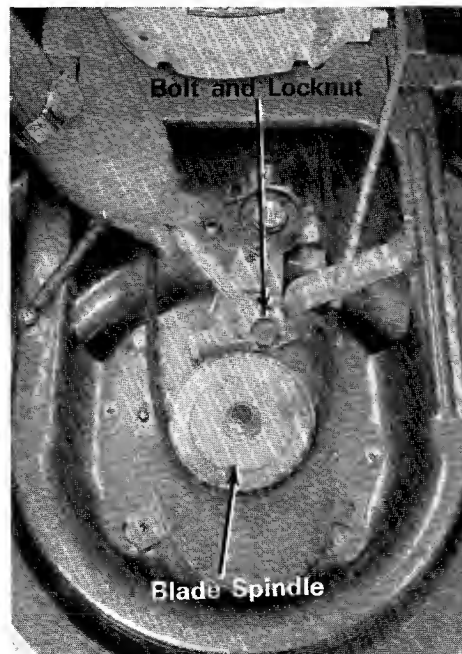

Figure 22
- 5 Remove the brake lever assembly by removing the bolt and locknut. (See figure 22.)